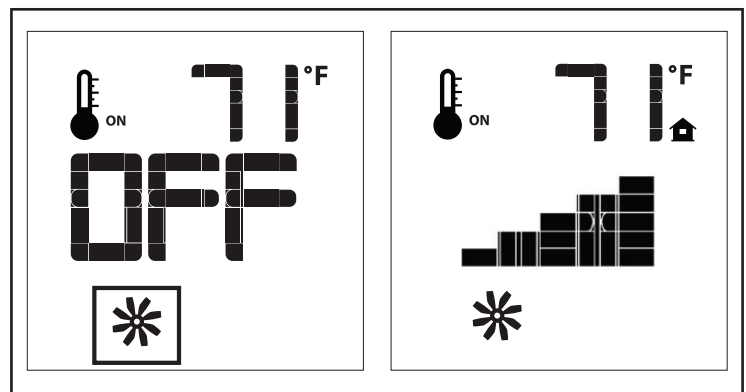

Figure 14: Fan Control
The Berkeley comes with a convection fan that can be controlled with the Transmitter. The fan speed can be adjusted through six (6) speeds. To control the fan press the Mode key (Figure 5) to index to the fan control icon (Figure 14). Use the UP/DOWN arrow keys to turn on, off, or adjust the fan speed (Figure 14). A single beep from the IFC will confirm the command has been received